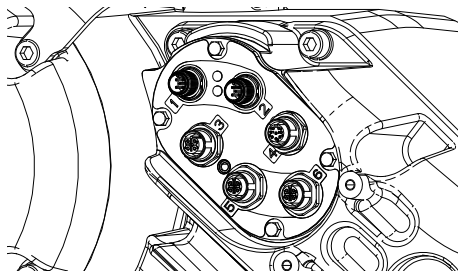

FIG. 41
- c. Loosen the cord grip (CG).
- d. Remove wires from Driver housing by pulling them through the cord grip (CG).
- e. Disconnect the cables connected to ports 1-6 on the side of the Driver (AB), shown in FIG. 41.